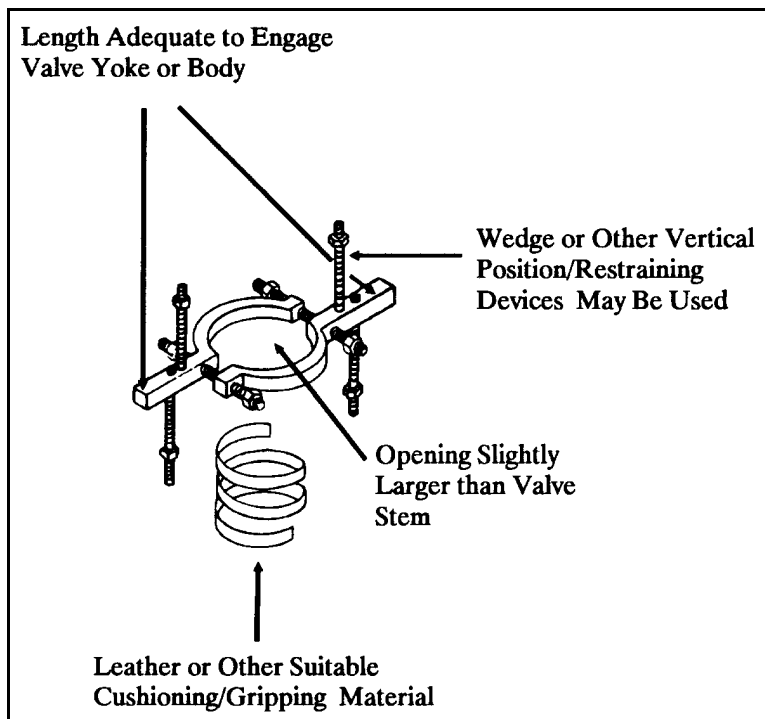

Figure 6-2 Valve System Locking Clamp
5. If valve stem position cannot be changed, make a valve stem locking clamp. See Figure 6-2.
5. If necessary, make valve stem locking device. (Refer to Figure 6-2)